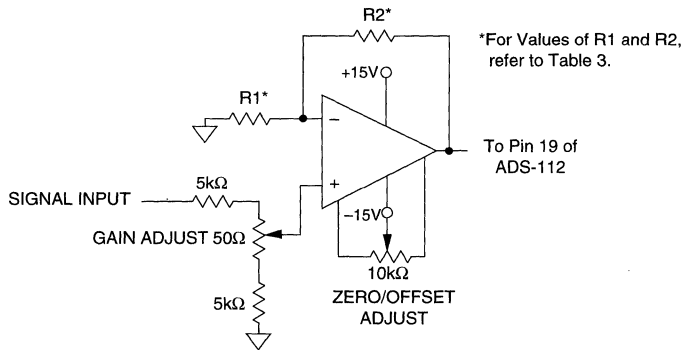

Figure 4. Optional Calibration Circuit
③ For ±12V, +5V operation, contact DATEL.
1. Applications which are unaffected by endpoint errors or remove them through software will use the typical connections shown in Figure 3. Remove system errors or adjust the small initial errors of the ADS-112 to zero using the optional external circuitry shown in Figure 4. The external adjustment circuit has no effect on the throughput rate.